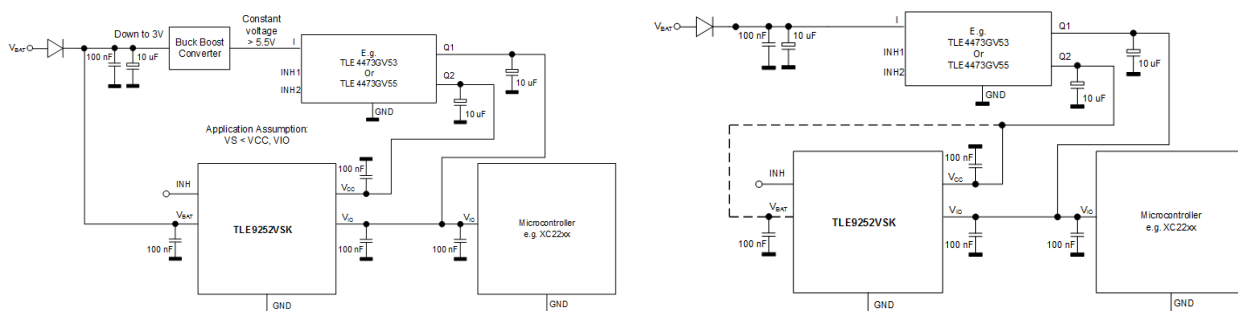

Figure 15 Benefits of Dual Power Supply Concept
- TLE9252V can be used in applications with leaving V_{BAT} pin n.c. and only supplied by V_{CC} pin (see **Figure 15**)